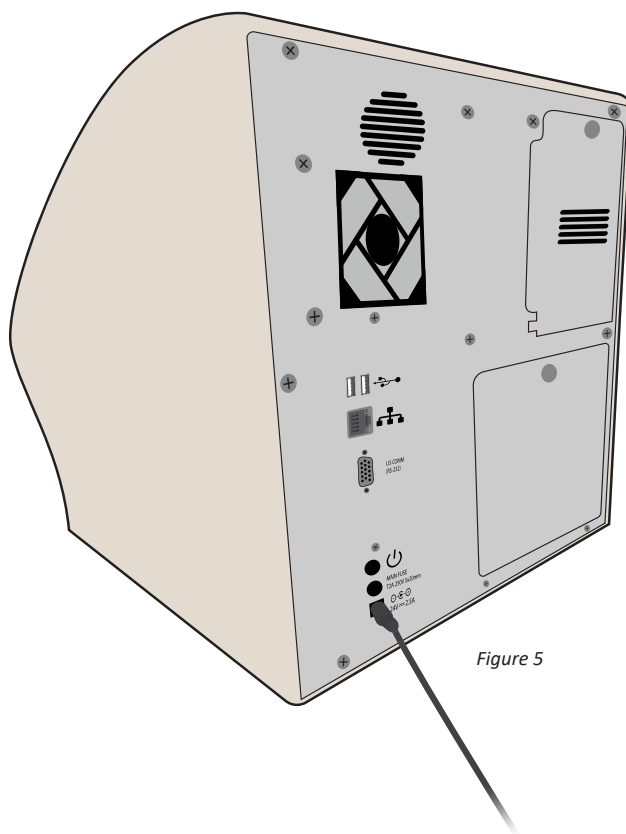

Figure 5
3. Insert the power adapter cord into the power connection port located on the rear panel of the instrument (Figure 5).